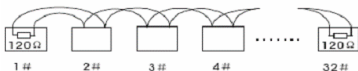
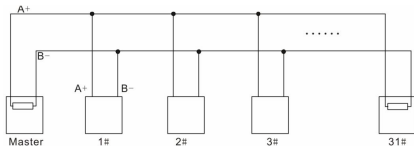
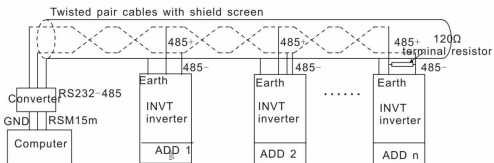

Figure 2 Chrysanthemum connection
Figure 3 Chrysanthemum connection
Figure 4 Chrysanthemum connection applications
**7.2.1.2** In real multi-applications, the chrysanthemum connection and star connection are commonly used. Chrysanthemum chain connection is required in the RS485 industrial fieldbus standards. The two ends are connected to terminal resistors of 120Ω which is shown as figure 2. Figure 3 is the simply connection figure and figure 4 is the real application figure.